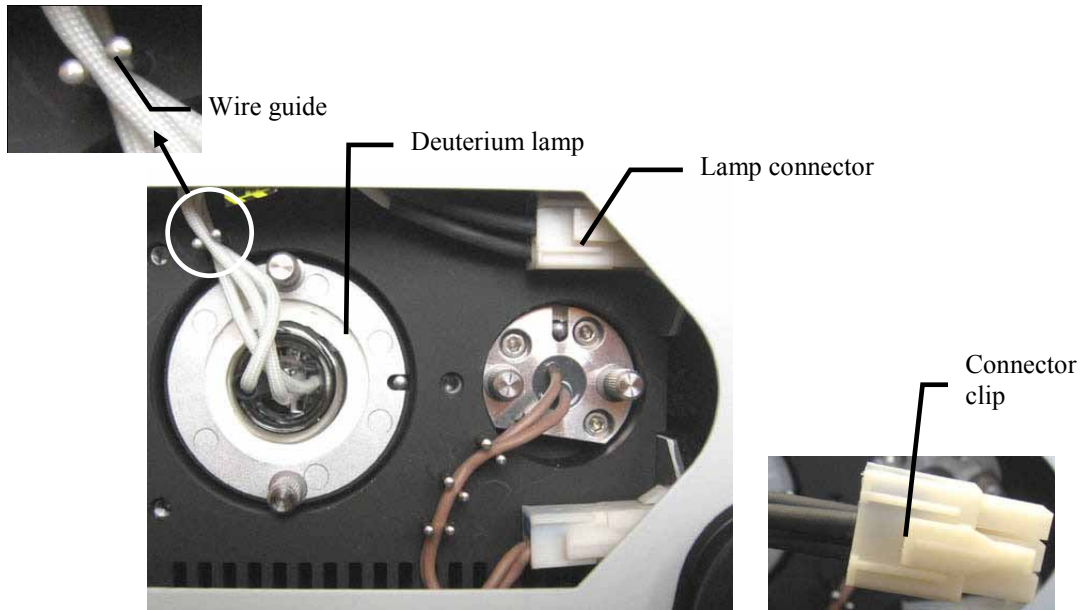

Fig. 32: Deuterium lamp connector
- Reconnect the lamp connector (→ Fig. 32).
- Route the lamp wire through the wire guide (→ Fig. 32).